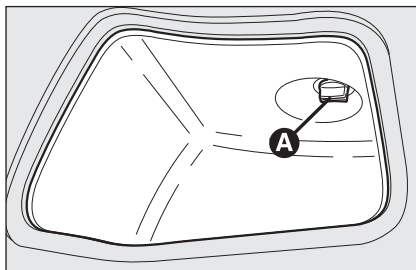

fig. 38
- remove the protection cover by operating device **A-fig. 38**;